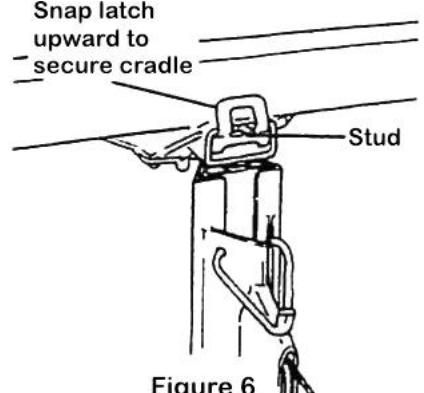

Figure 6
- 6. Attach the cradle to the frame (Figure 6):**